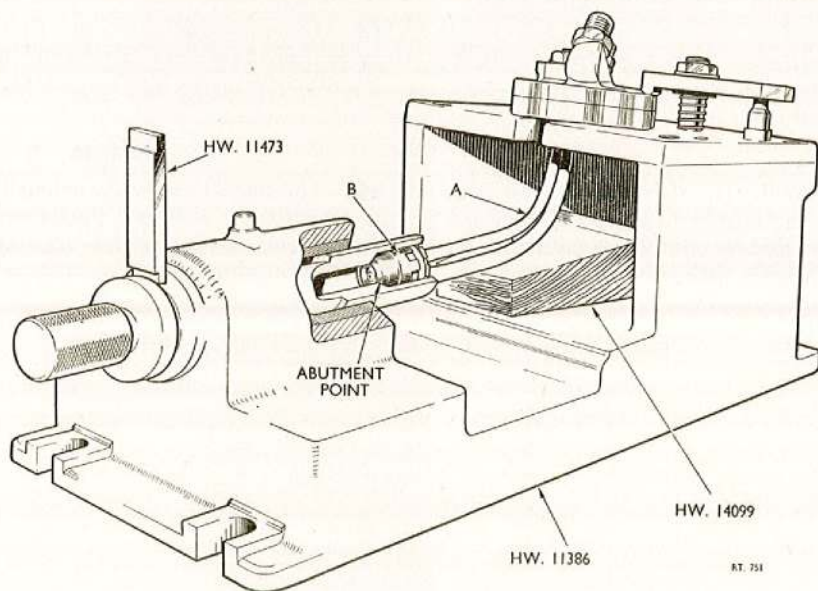

Fig. 7. Fixture for checking alignment of burner (Derwent)
51. If the alignment is correct the locating sleeve should pass freely over the burner head until it abuts the end face of the air shroud (fig. 7).
**55.** To shorten the pipes, pass the locating sleeve over the head of the burner ; move the wooden block to support the pipes and strike the pipes using the fibre tipped drift HW. 14217, at the point 'A' indicated in fig. 7.
**56.** To lengthen the pipes first ensure that the locating sleeve is clear of the burner head, then move the wooden block to the rearward position and strike the burner head with a hide mallet in a downward direction, indicated at point 'B' (fig. 7).
**60.** If, when checking the relative position of the burner head to the spherical connection, it is found necessary to lengthen the pipes, this may be done by supporting the pipes from underneath with the fibre drift and bending them by hand. To shorten the pipes, pass the locating sleeve over the head of the burner and strike the pipes using the fibre tipped drift HW. 14217, at the point 'A' as indicated for Derwent burners (fig. 7).